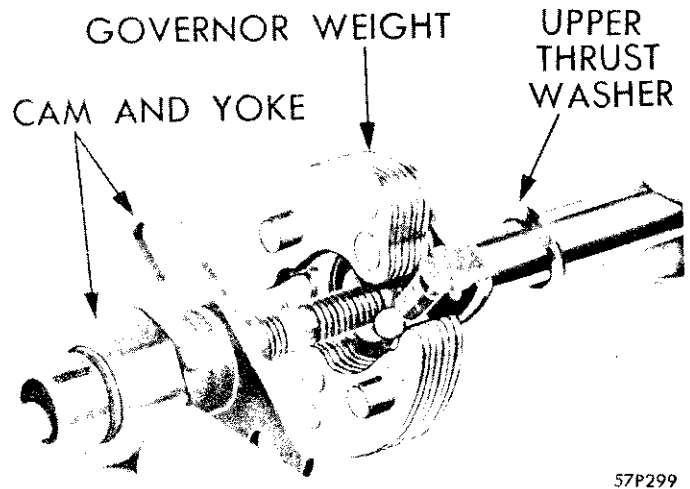

Fig. 35—Distributor Shaft Assembly
(2) Inspect all bearing surfaces and pivot pins for roughness, binding or excessive looseness. Inspect the distributor points for evidence of burning or pitting.
(3) Install the spacer.
(4) Slide the cam and yoke on the distributor shaft, engage the weight lugs with the slots in the yoke (Fig. 35) and position anti-rattle spring. Install the cam retaining spring clip (Fig. 28).
(5) Lubricate and install the upper thrust washers on the shaft and slide the shaft into the distributor body. Position the lower thrust washer and drive the collar on the lower end of the shaft and install the retainer pin.
(6) Install the oiler wick and oiler.
(7) Install the breaker plate assembly, align the condenser lead, breaker point spring, primary lead and install the attaching screw.
(8) Install the distributor cap clamp springs, lock-washers and screws.
(9) Install the felt wick in the top of the distributor cam.
(10) Attach the vacuum control unit arm to the breaker plate advance arm and install the washer and hairpin clip. Install the vacuum unit attaching washers and screws.
(11) Check the spring tension, and adjust the contact gap.
(12) Lubricate the felt pad in the top of the distributor cap with 3 to 5 drops of light engine oil and install the rotor.